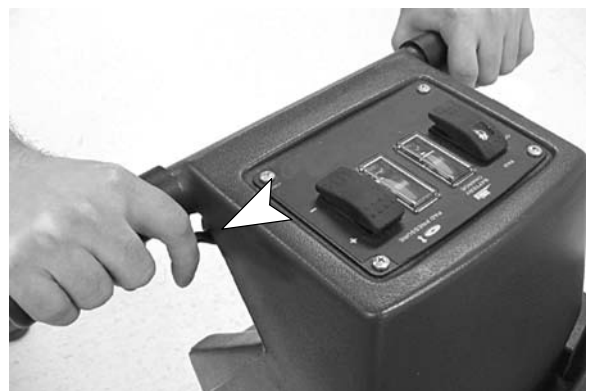

FIG. 9
2. Pull the trigger switches to start the pad spinning. The pad will automatically draw to floor (Figure 9).